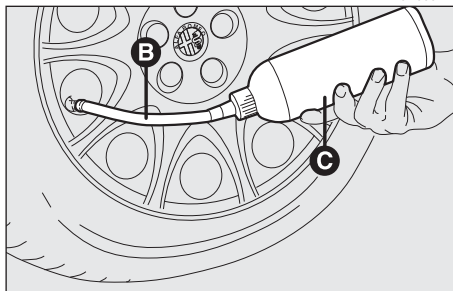

fig. 16
4) Introduce the filling pipe (**B-fig. 16**) in the tyre valve, keep the bottle (**C-fig. 16**) with the pipe directed downwards, then press it so that the whole sealer can get in to the tyre.